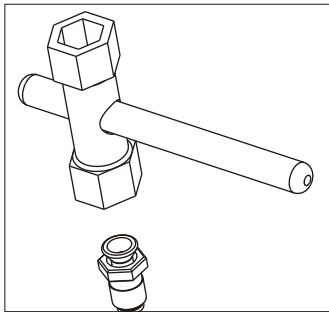

Figure 4: Checking Non Return Valve (NRV) With 12 X 13 Box Spanner
- c. After trying both A & B Solutions, if you still face the problem then check for the Non Return Valve (NRV). NRV might be leaking. For testing, fill the full air in the core holder and then submerge the Chuck in the water barrel or tank. The air bubbles will start coming near and around the NRV. Then, tighten up the NRV 12x13 mm Box Spanner. Or, immediate replacement is needed. (Figure 4)